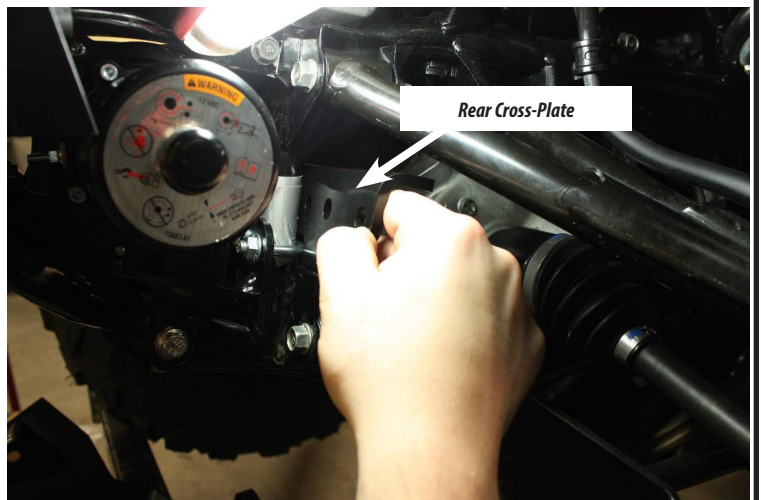

Figure 3
3. Slide rear cross-plate behind frame upright. See Figure 3.